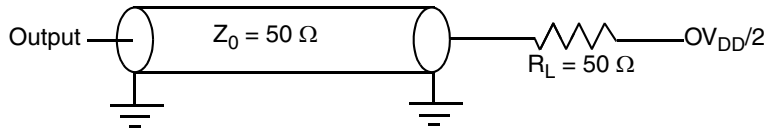

Figure 23. AC Test Load for the JTAG Interface
1. All outputs are measured from the midpoint voltage of the falling/rising edge of t_{TCLK} to the midpoint of the signal in question. The output timings are measured at the pins. All output timings assume a purely resistive 50-Ω load (see Figure 23). Time-of-flight delays must be added for trace lengths, vias, and connectors in the system.
2. The symbols used for timing specifications herein follow the pattern of $t_{(first\ two\ letters\ of\ functional\ block)(signal)(state)}$ (reference)(state) for inputs and $t_{(first\ two\ letters\ of\ functional\ block)(reference)(state)(signal)(state)}$ for outputs. For example, t_{JTDVKH} symbolizes JTAG device timing (JT) with respect to the time data input signals (D) reaching the valid state (V) relative to the t_{JTG} clock reference (K) going to the high (H) state or setup time. Also, t_{JTDXKH} symbolizes JTAG timing (JT) with respect to the time data input signals (D) went invalid (X) relative to the t_{JTG} clock reference (K) going to the high (H) state. Note that, in general, the clock reference symbol representation is based on three letters representing the clock of a particular functional. For rise and fall times, the latter convention is used with the appropriate letter: R (rise) or F (fall).
Figure 23 provides the AC test load for TDO and the boundary-scan outputs of the MPC8347E.